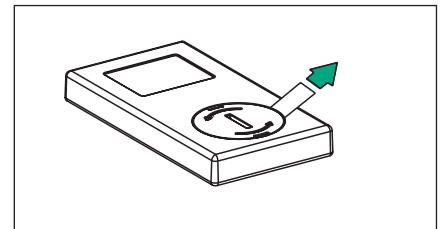

Figure 1. Removing the battery insulating strip from the remote control
2. Pull out the battery insulating strip from the underside of the remote control as shown in figure 1. This strip insulates the battery from the contacts on the remote control during shipping and the remote control does not function before it is removed.